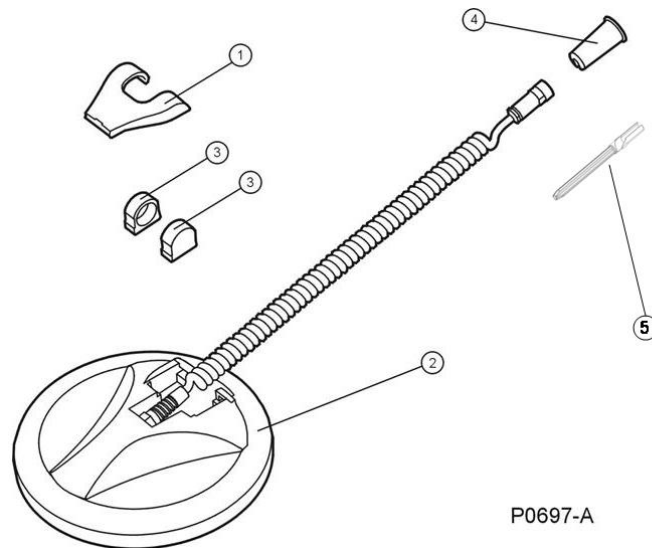

Figure 13: Excess Wiring Loom Cable Folded Correctly & Cable Router
- Route the wiring loom around the cable router on the side of the bulkhead cover. (Figure 13)